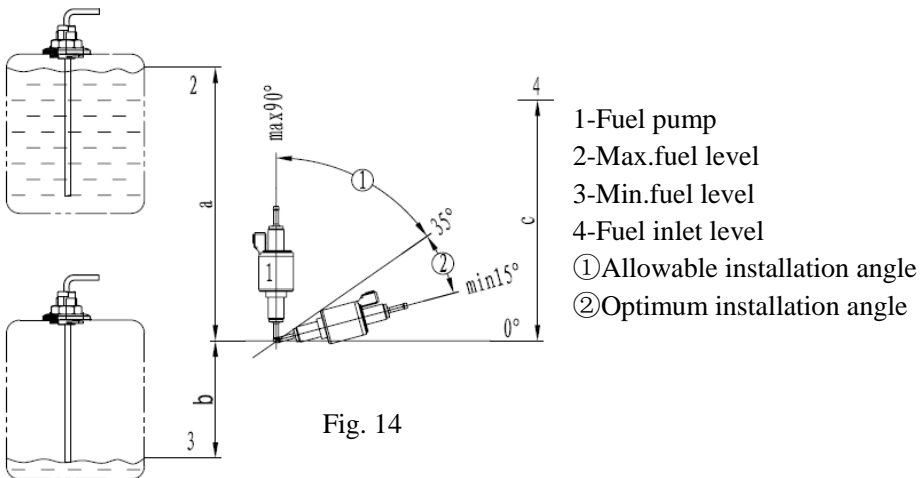

Fig. 14
4.5.1 The fuel pump shall be fixed in automobile with a fuel pump clamp with protective rubber cover. The outlet of the fuel pump shall tilt upwards. The tilt angle can be selected from the range of $15 \sim 35^\circ$ (as shown in Fig. 14). When conditions permit, the fuel pipe between the fuel pump and the heater shall go up gradually.